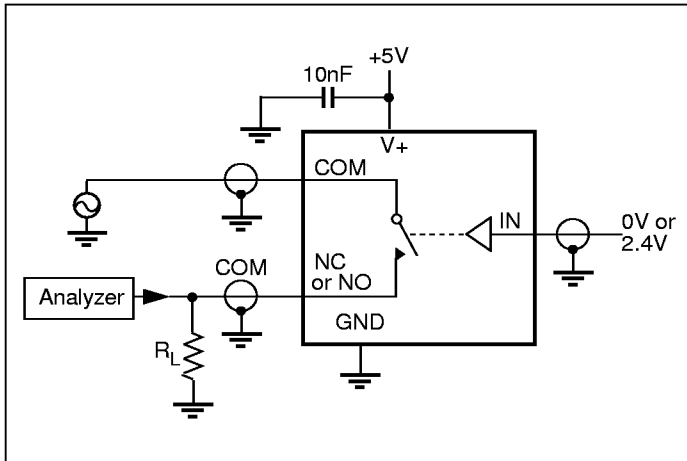

Figure 5. Off Isolation
- Off Isolation = $20 \log_{10} [V_{COM} / (V_{NC\ or\ V_{NO}})]$. See figure 5.